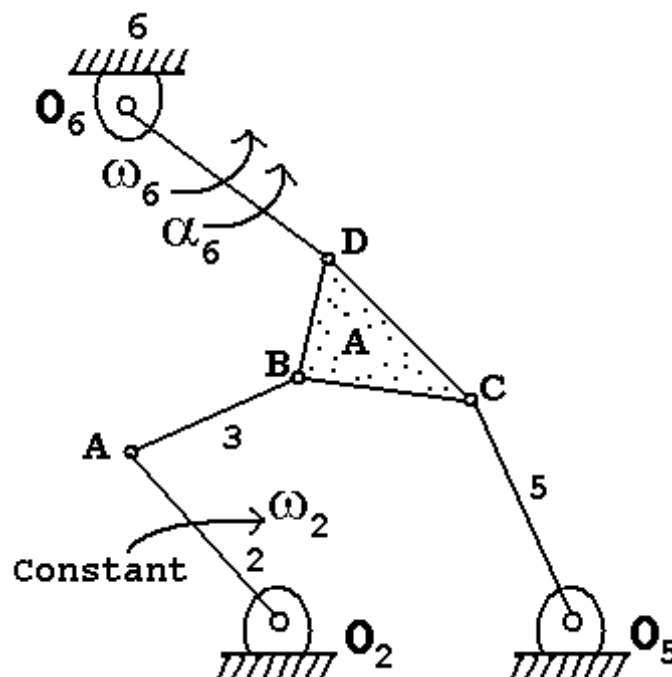

Figure 5:
2. In the mechanism shown in below figure 5. $\omega_2 = 10 \text{ rad/sec}$ (constant) clockwise, $O_2A = 80\text{mm}$, $AB = 50\text{mm}$ and $BC = 80\text{mm}$. Determine ω_6 and α_6 by using Goodman's indirect acceleration approach. [16]